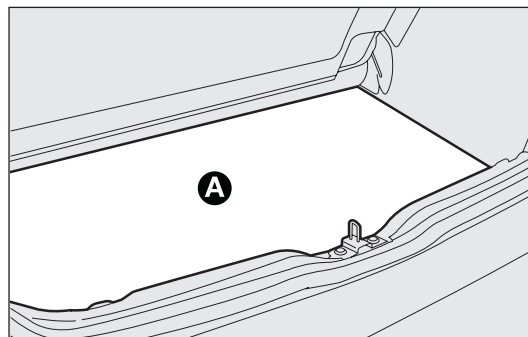

fig. 121
- ☐ lift the boot mat A-fig. 121;